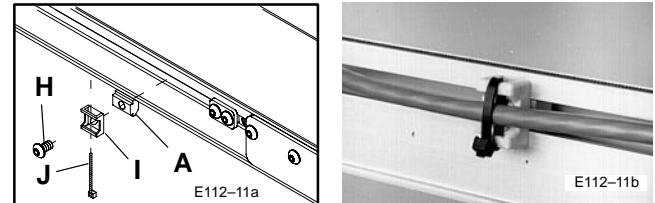

Figure 11: Zip Tie Mounting Detail
- To route Cable over a previously mounted component or to anchor the Cable, use the Zip Tie Mounts (I) and Single Drop-in T-bars, (Figure 11). Secure each Zip Tie Mount with an M6 x 10 mm Button Head Cap Screw (H). Tighten the Screws with the 4 mm Hex Key Wrench provided.